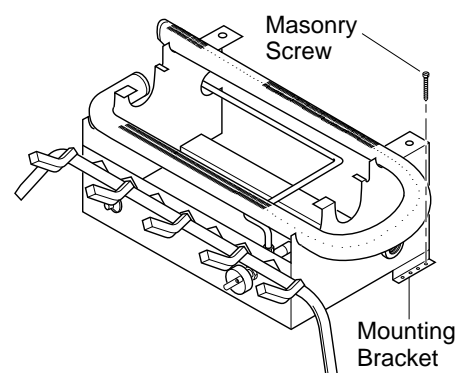

Figure 13 - Attaching Base Assembly to Fireplace Floor - Dual Burner Model
4. Mark screw locations through holes in mounting brackets (see Figure 13 or 14). If installing in a brick-bottom fireplace, mark screw locations in mortar joint of bricks.
7. Attach base assembly to fireplace floor using two masonry screws (in hardware package) (see Figures 13 or 14).